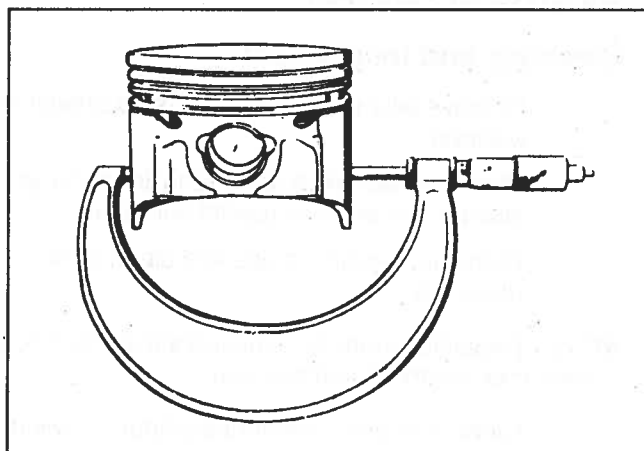

Figure 8-192. Measuring Piston
- b. Measure piston diameter at skirt across centerline of piston pin (Figure 8-192).